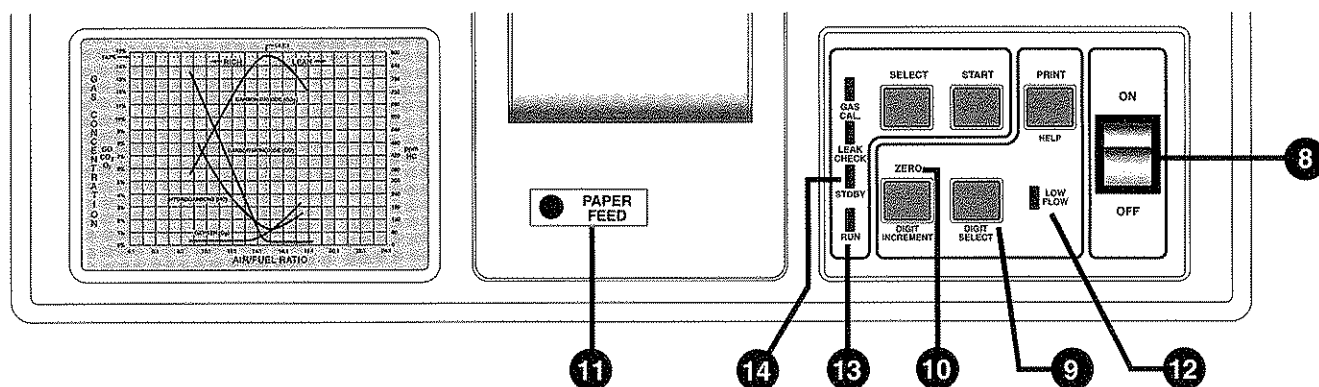

FIGURE 12:
**8. ON / OFF (Power) Switch** - (see FIGURE 12) Depress the bottom of this rocker switch to turn the analyzer **OFF**, or the top of the switch to turn it **ON**.